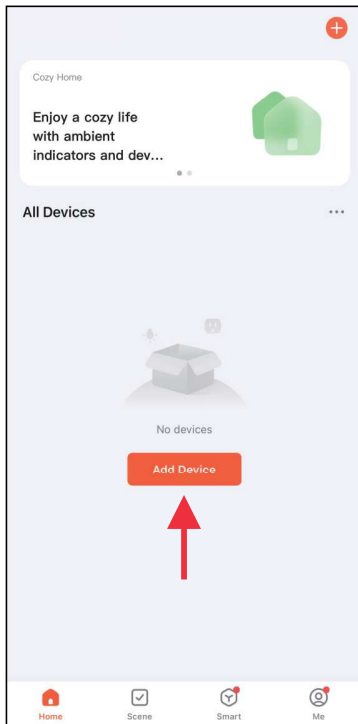
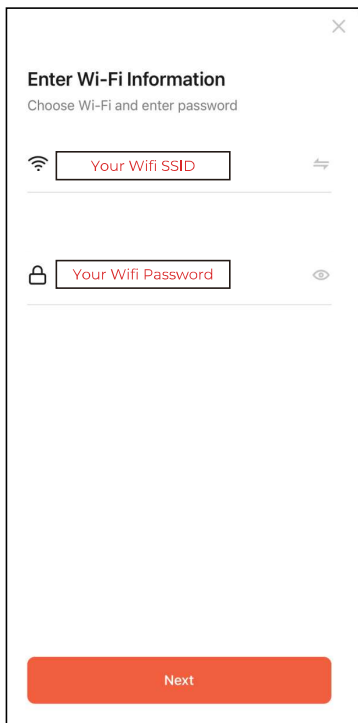
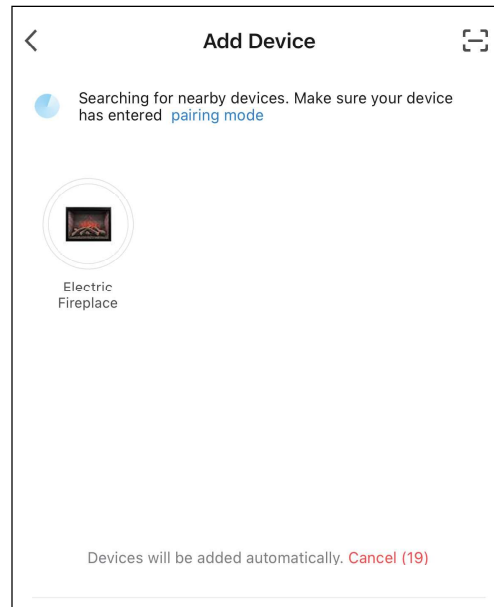
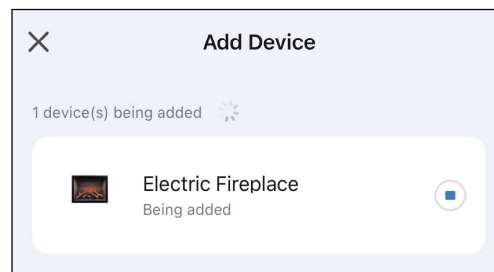

Figure 1
Figure 3
Figure 2
Figure 4
2. When you log in, click "Add Device" (Figure 1) to go to the next step. The APP will scan and add the fireplace to the APP automatically (Figure 2). Click Add. Enter your WiFi account name and password (Figure 3) and click Next. The APP will add the electric fireplace (Figures 4 and 5). Click Done to finish the WiFi setup.